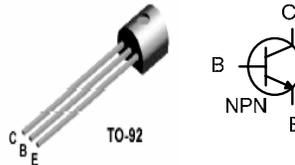

Figure 1 2N3904 Pin configuration
A Bipolar junction transistor (BJT) is a three terminal device capable of amplifying an *ac* signal (see Figure 1). The three terminals are called base (B), emitter(E), collector(C), and come in two flavours NPN (On a NPN transistor arrow is not pointed IN (See Figure 1)) and PNP. The middle letter indicate the type of material used for the base, while outer letters indicate the emitter and collector